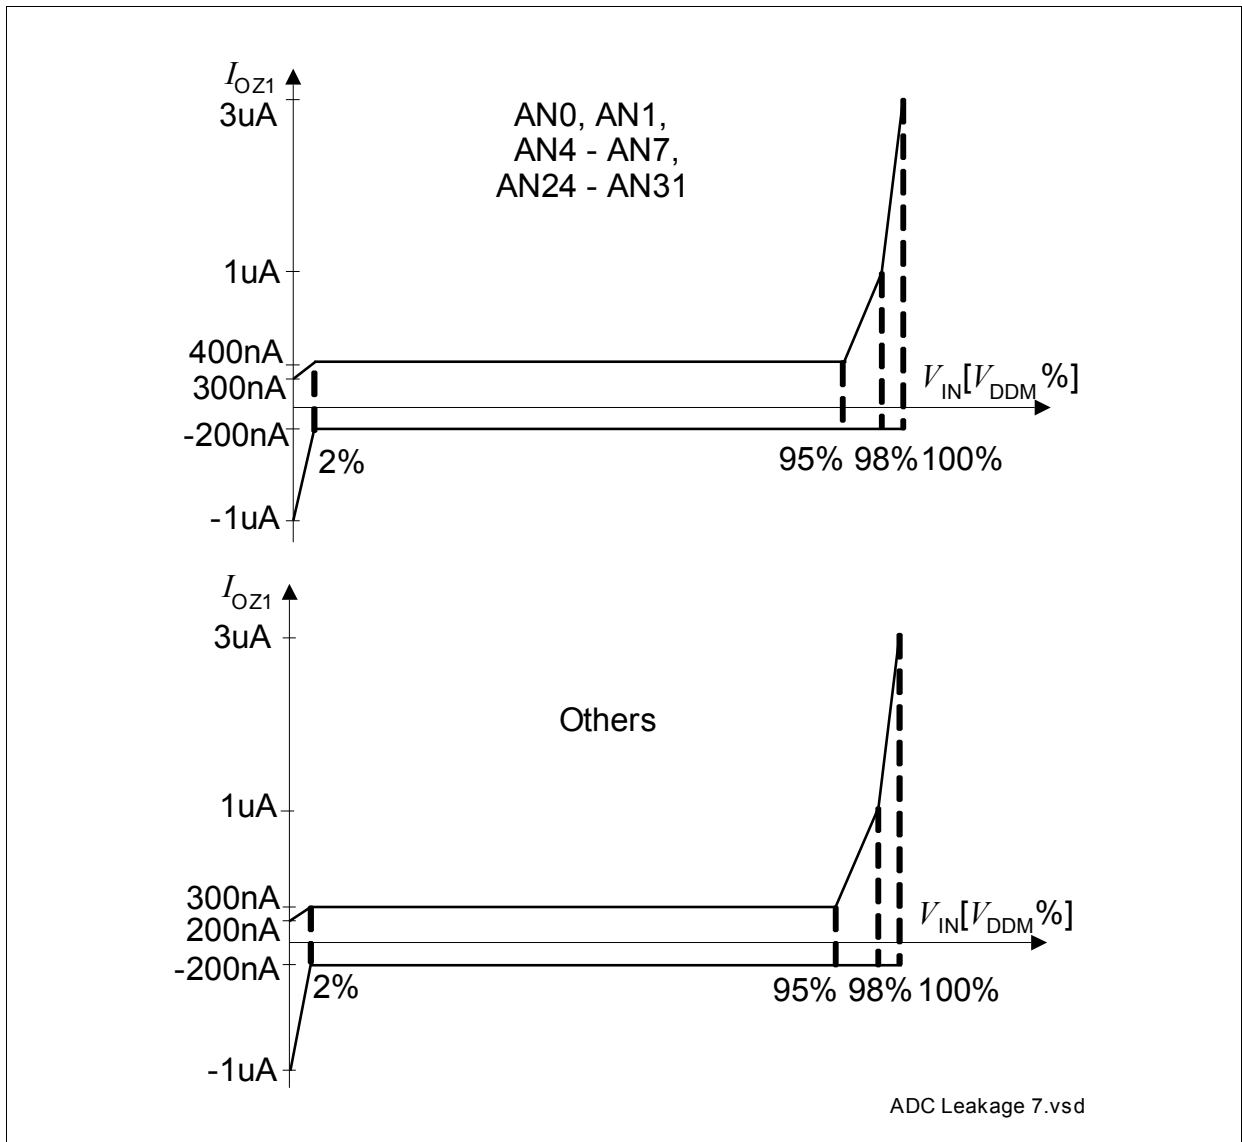

Figure 24 **ADC0/ADC1 Analog Inputs Leakage**
- 13) The leakage current definition is a continuous function, as shown in Figure 24. The numerical values defined determine the characteristic points of the given continuous linear approximation - they do not define step function.